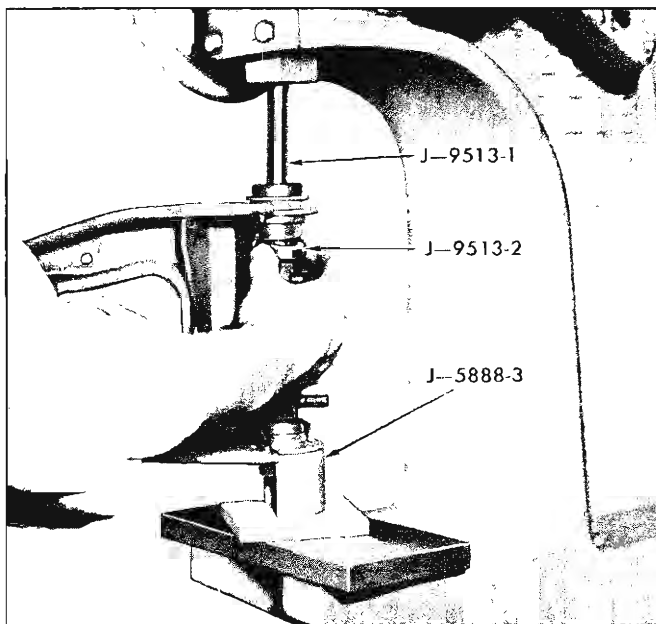

Fig. 43—Installing Bushing Remover J-9513-2—Chevy II
4. Press pivot shaft down until upper bushing diameter is visible for approximately 5/16", then insert J-9513-2 over journal (fig. 43). Release tension on pivot shaft.